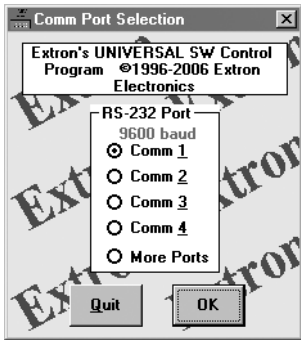

Figure 3-3 — Comm port selection window
- 2. In the Comm Port Selection window (figure 3-3), click the comm port that is connected to the MSW's RS-232 port.